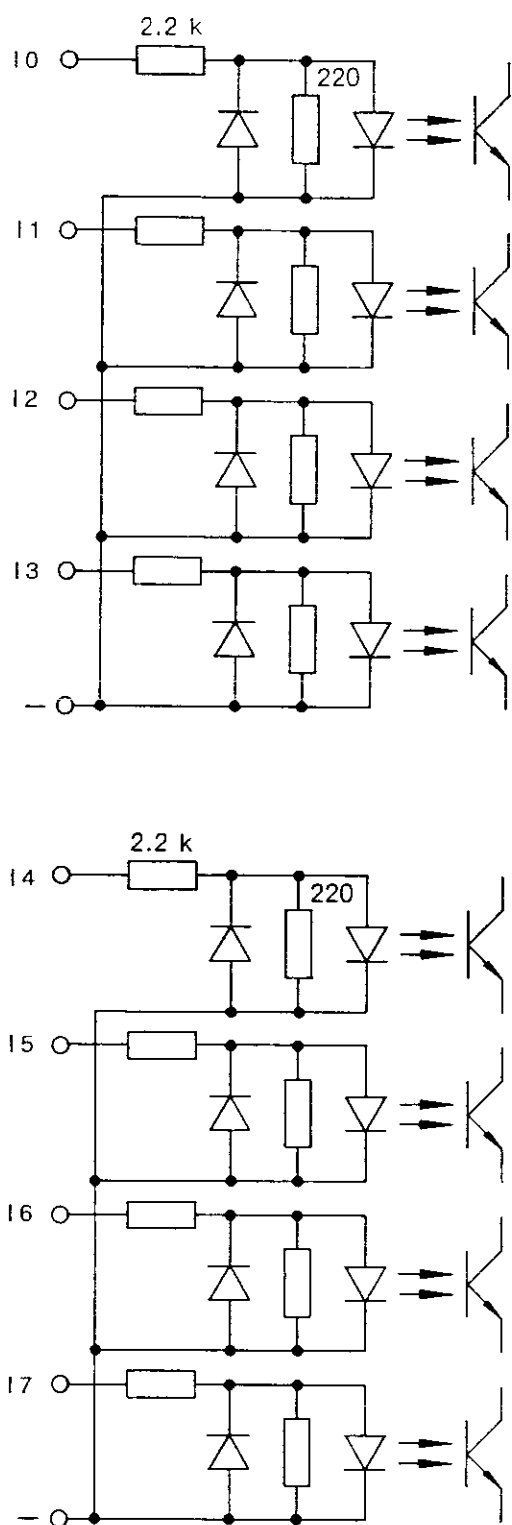

Figure 3.2: Internal circuit of the input module
- ① = Inputs 0-3, 4-7
- ②  = Ground terminal (protective ground)
- ③  = Reference potential (-) of the 24 V DC supply voltage. The two ⊖ are in each case internally connected (see Fig. 3.2).
- ④ = Interface cable for connection to the basic configuration
Note: In figures 3.2 and 3.3 IO...I7 stands for input terminal 0 to input terminal 7.